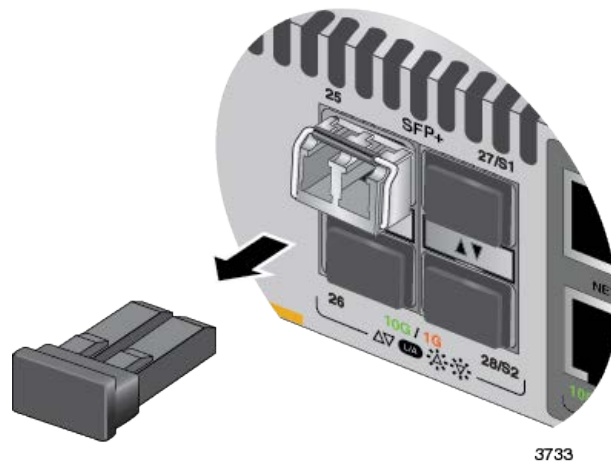

Figure 74. Removing the Dust Cover from an SFP or SFP+ Transceiver
5. Remove the dust cover from the transceiver, as shown in Figure 74.
1. If the SFP+ port has a dust cover, remove it. Refer to Figure 74 on page 139.